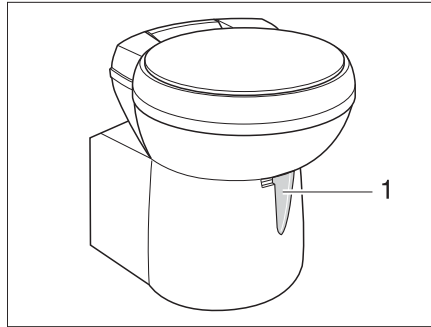
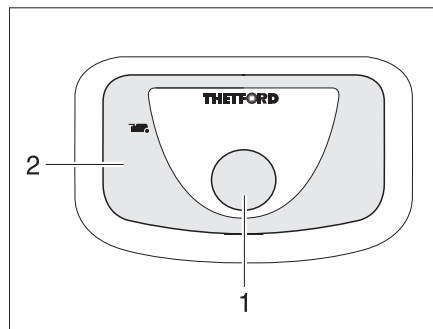

Fig. 296 Thetford toilet bowl, swivelling
Fig. 297 Flush button/indicator lamp
- Before flushing open the sliding trap of the Thetford toilet. To do this, push the slide lever (Fig. 296,1 or Fig. 297,1) in an anticlockwise direction.
- For flushing, press the blue flush button (Fig. 296,1 or Fig. 297,1).
The indicator lamp (Fig. 296,2 or Fig. 297,2) goes on whenever the Thetford cassette has to be emptied.
- Push the slide lever (Fig. 296,1 or Fig. 297,1) in a clockwise direction. The sliding trap is closed. To empty, the sliding trap in the Thetford toilet **must** be closed.